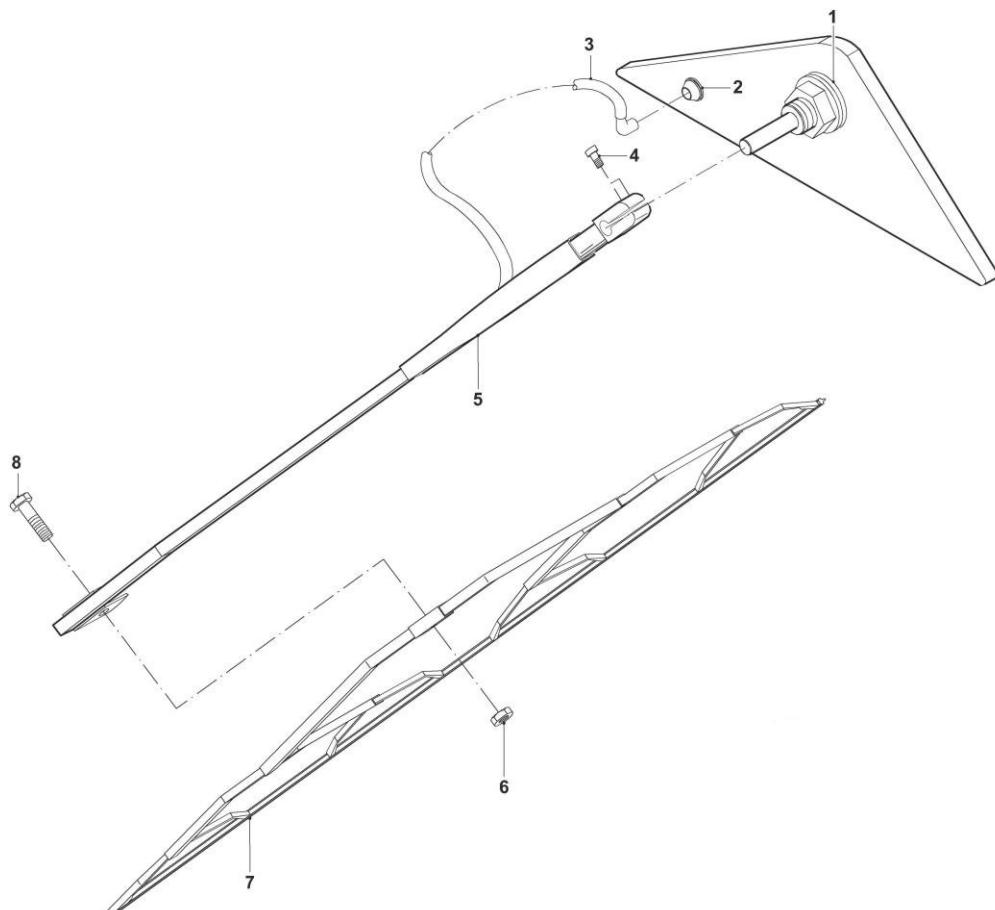

FIG 1 WIPER ARM & BLADE REPLACEMENT
To replace the Wiper Blade proceed as follows (Refer to Fig 1).
<p>B ARM REPLACEMENT</p> <p>WARNING: USE SUITABLE EXTERNAL SCAFFOLD IN ORDER TO SAFELY OPERATE ON VEHICLE EXTERIOR.</p> <p>To replace the Wiper Arm (with or without Blade) proceed as follows: (Refer to Fig 1).</p> <p>REMOVAL</p> <ol style="list-style-type: none"> 1. Disconnect hose (3) from Bulkhead Connector (2). 2. Loose the Screws (4) and remove the Wiper Arm (5). <p>INSTALLATION</p> <ol style="list-style-type: none"> 1. Position the Wiper Arm (5) on its seat. onto the Motor Shaft. 2. Install the Screws (4). Torque to 12.5 ft-lb (17 Nm). 3. Connect Washer Fluid Hose (3) to the Bulkhead Connector (2). 4. Check the Arm and Blade for proper working by switching on the 10S04 Windshield Wiper Switch on Operating Console, LH Panel. 5. Record Task results on the Defect Report Card for administrative and maintenance planning. <p>NOTE: At Task Completion it is recommended to check the correct operation and/or functions of the Subsystem to which the replaced Equipment pertains.</p> <p>Refer to HOW TO USE THE R-CM SHEETS(para 17-III-04-01-02 of this Section) and follow the prescriptions provided at Step 3 "At every Task Completion."</p>